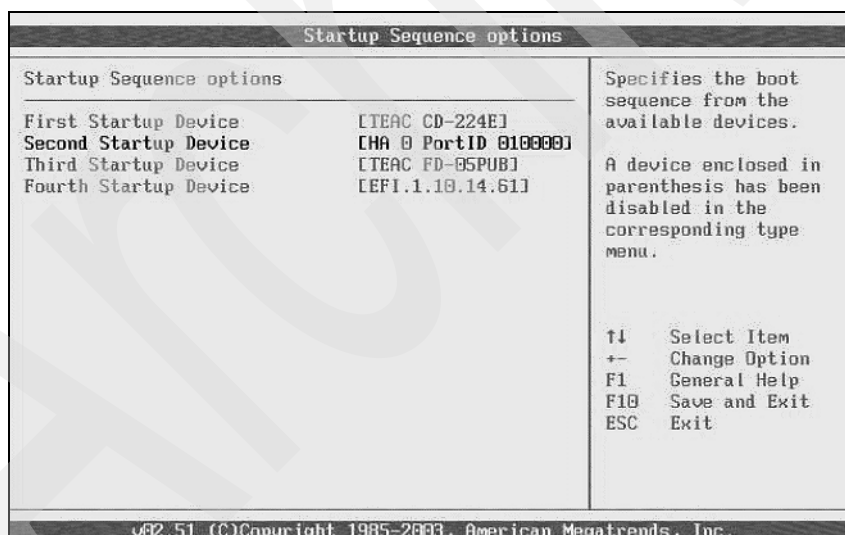

Figure 5-16 HS40 blade: Startup Sequence options: Second startup device
- e. Select the fiber device and press Enter, as shown in Figure 5-16.